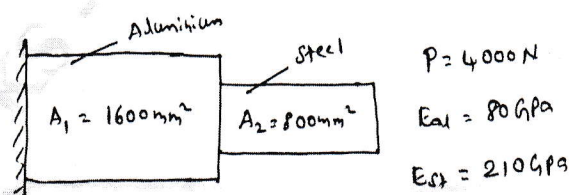

Fig Q4
- 4 Determine the stresses in members of structure given in Fig Q4. Using penalty approach method.